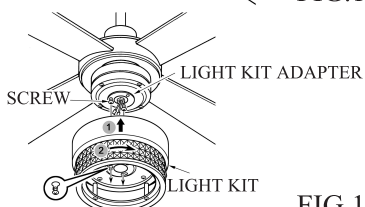

FIG.13
2. Mount the light kit plate on the loosened screw in the light kit adapter and twist the light kit plate until the two round holes on ligh kit plate align with the holes on light kit adapter. (see Fig.13)